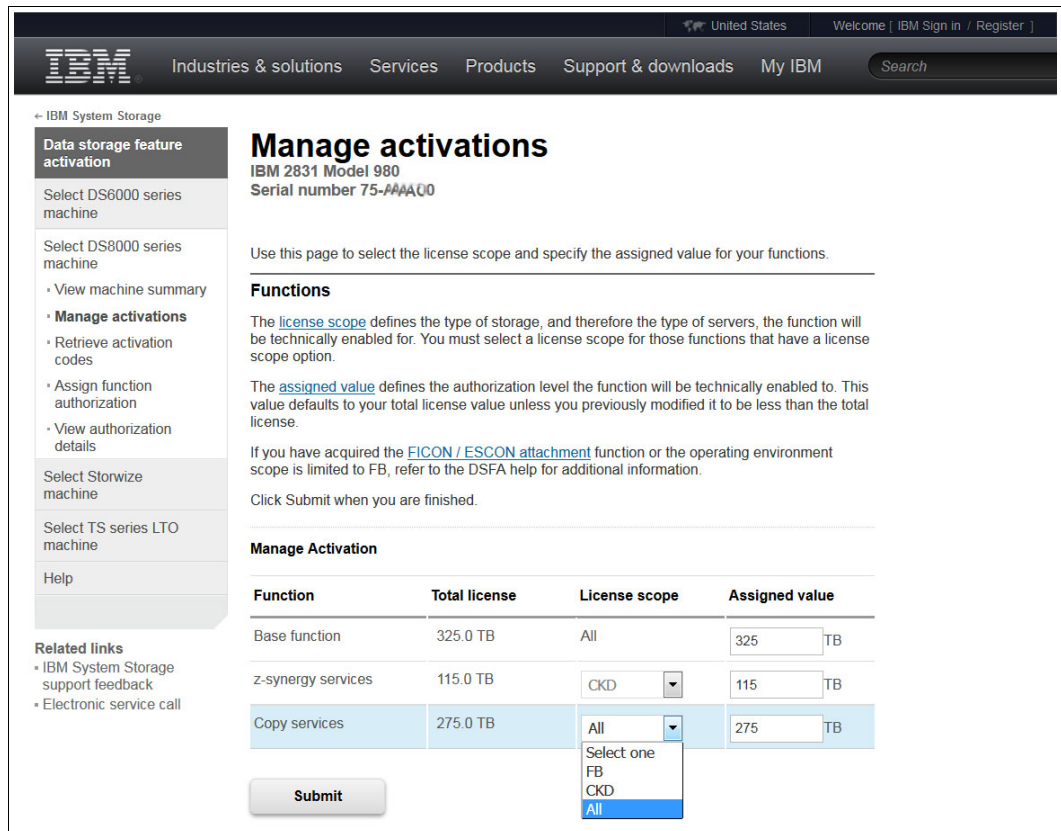

Figure 7-11 DSFA Manage activations window
4. On the left, click **Manage activations**. The Manage activations window opens, as shown in Figure 7-11. For each license type and storage image, enter the following information that is assigned to the storage image:
6. On the left on Figure 7-11, select **Retrieve activation codes**.